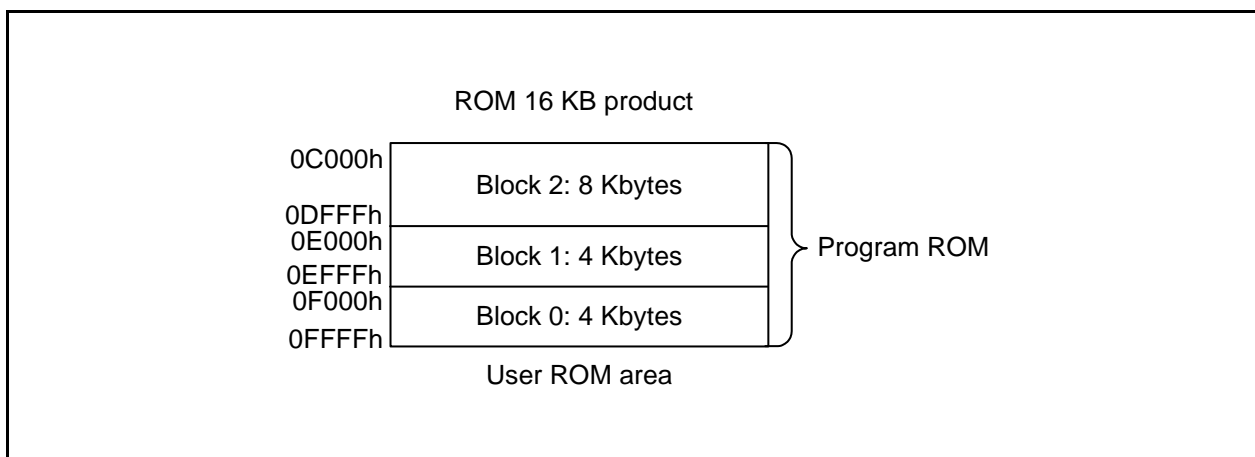

Figure 22.1 R5R0C0B Group Flash Memory Block Diagram
- The number of blocks and block division vary with the MCU. Refer to **Figure 22.1 R5R0C0B Group Flash Memory Block Diagram** for details.
Figure 22.1 shows the R5R0C0B Group Flash Memory Block Diagram.